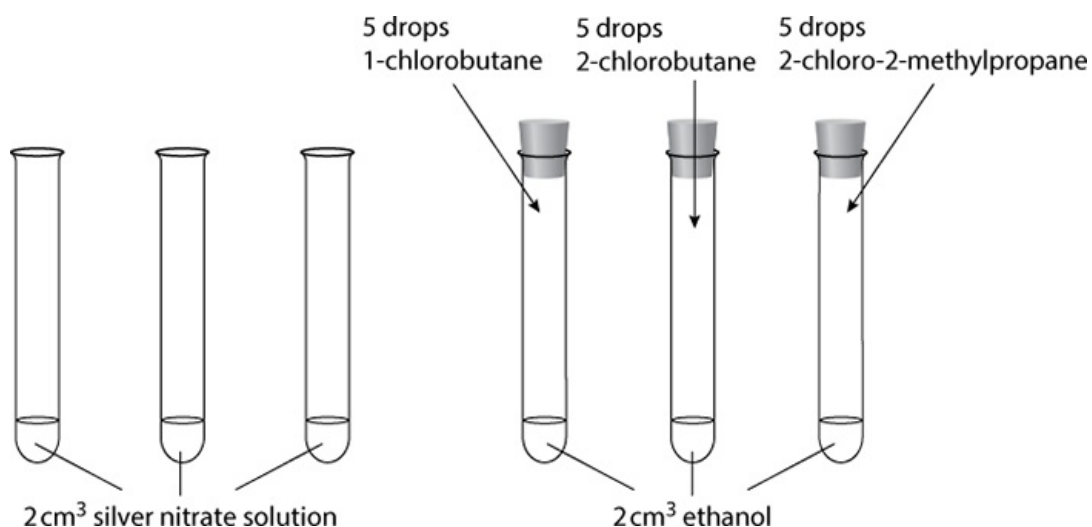

Figure 9.2: Investigating halogenoalkane hydrolysis
- 6 Add five drops of each of the three halogenoalkanes to the appropriately labelled ethanol test-tube and stopper the tubes. See Figure 9.2.